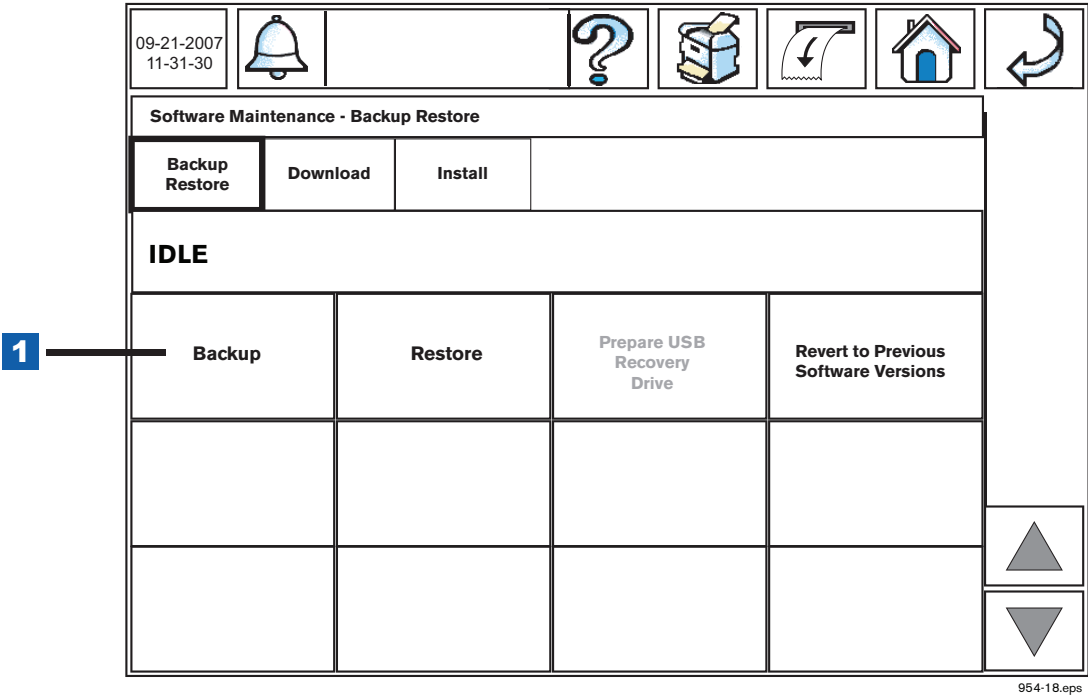

Figure 4. Initiating a System Backup
- 3. Touch the Software Maintenance button on the Diagnostic Maintenance screen (see Figure 3) to open the Software Maintenance - Backup Restore tab screen (see Figure 4).
4. Touch the Backup button (item 1 in Figure 4) to begin the system backup process.
LEGEND FOR NUMBERED BOX IN Figure 4